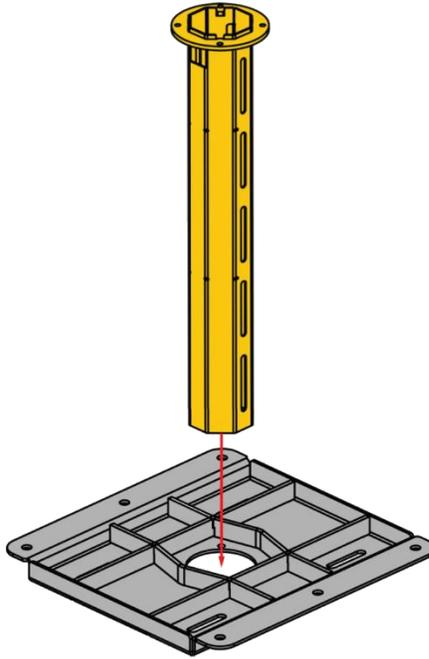

Figure 71:
Step 1: Start the assembly of the VM-1140 ceiling mount by sliding the upper tube ② over the ceiling plate ①, as shown in **Figure 71**.